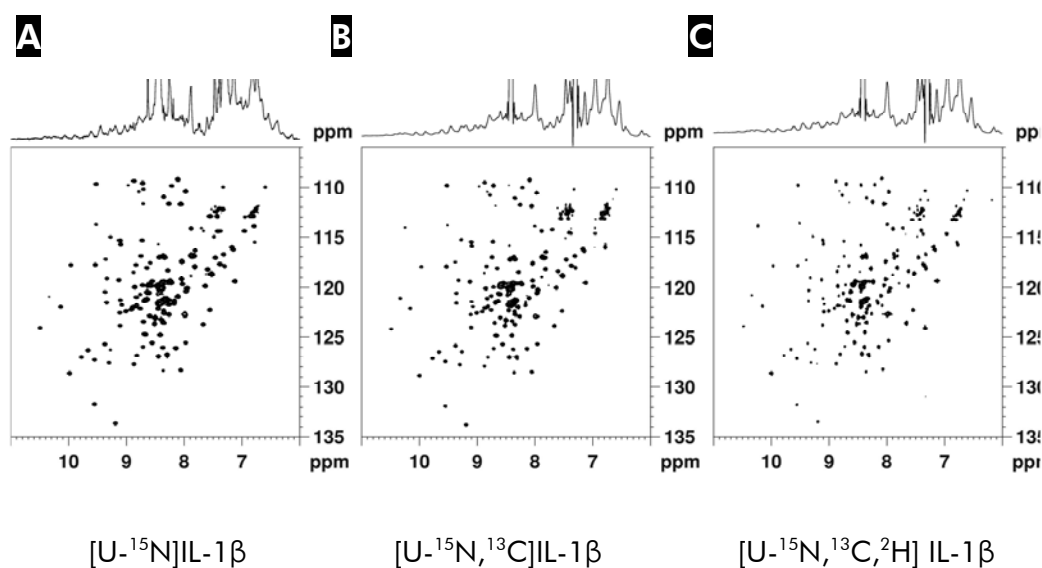

Figure 2. ¹H-¹⁵N HSQC spectra of uniformly SI-labeled 6xHis-tagged human Interleukin-1 β samples synthesized with the EasyXpress NMR Protein Synthesis Kit. **A**
Advances in NMR technologies (e.g., Micro- and Cryoprobes) allow the use of lower amounts of labeled protein for NMR data acquisition (5), proteins can optionally be expressed in medium-scale (1 ml) or large-scale (5 ml) EasyXpress NMR Protein Synthesis reactions (Figure 2).